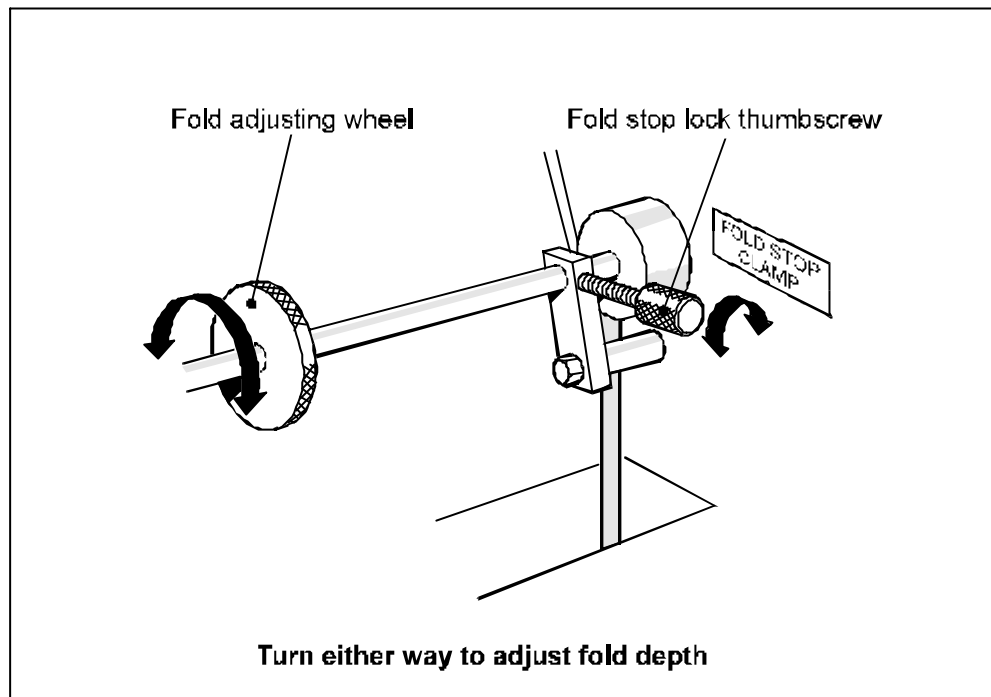

Figure 5 - Fold stop
1. The Stapling and the Folding positions are adjusted as one. Loosen fold stop lock thumbscrew, figure 5.